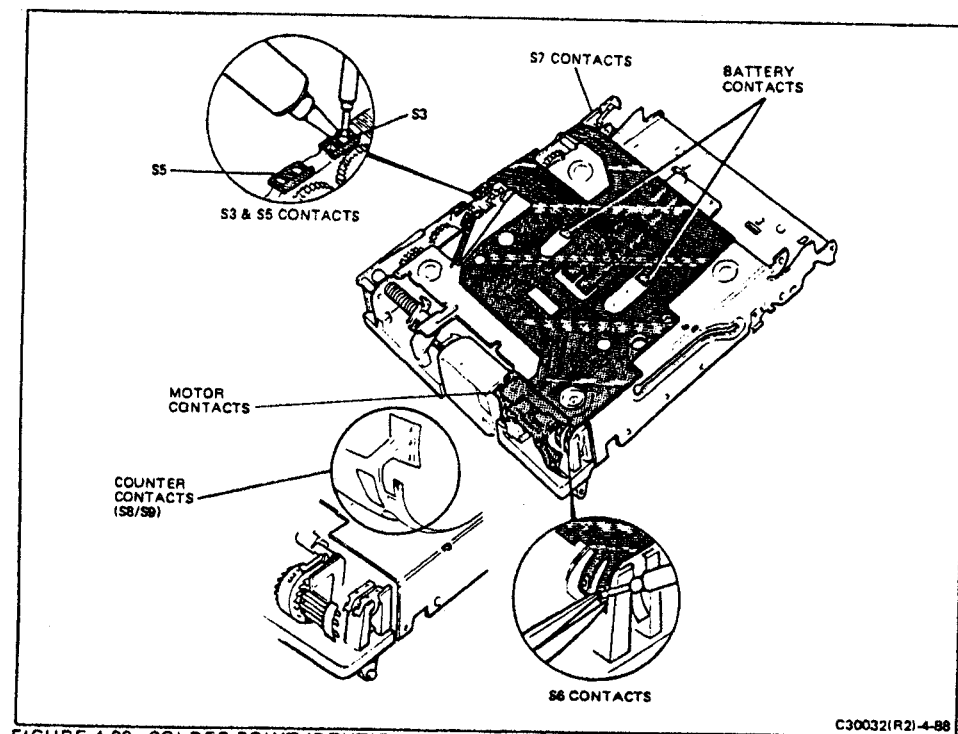

FIGURE 4-88 SOLDER POINT IDENTIFICATION
6. Referring to Figure 4-88 for the location of flex circuit contacts, unsolder the following contacts: (Use a solder-gobbler with the soldering iron and tweezers to help separate the contacts.)
**NOTE:** In the remaining steps, refer to Figure 4-88 for the location of contacts mentioned.